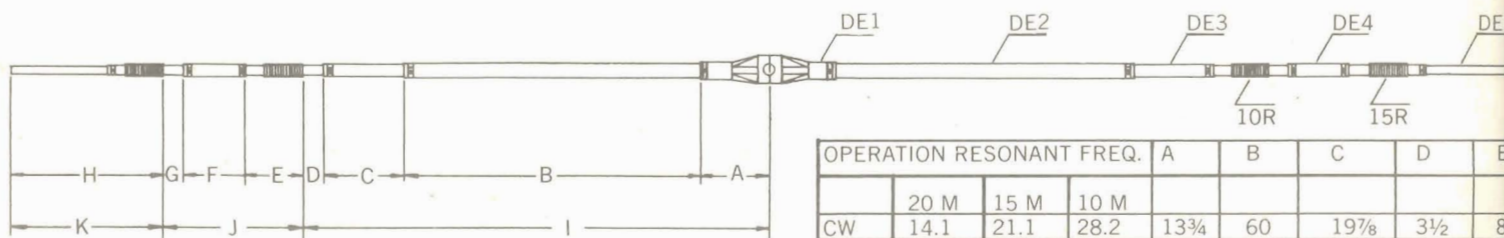

FIGURE 2 DRIVEN ELEMENT
- ☐ Be sure the three beta match insulator and grounding clip holes are on the bottom side of the boom. Driven Element. Element placement is marked by printed tape on the boom. Related parts are bundled together with tape. Choose the operating frequency range from Figure 2 and proceed.
- ☐ Refer to Figure 2.